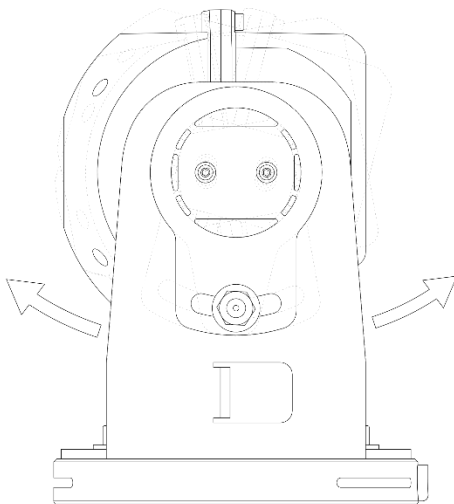

Figure 13: Tilt Adjustment
1. Adjust the vertical angle of the camera. See Figure 13.